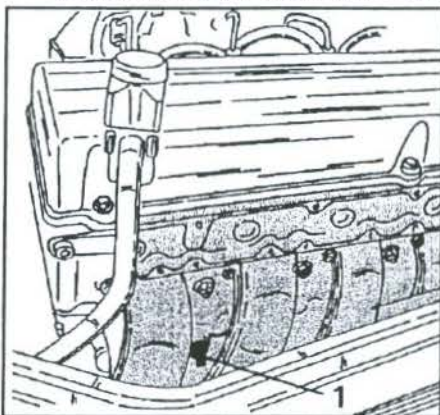

Fig. 1.83 - The coolant drain plug (1) in the side of the cylinder block.
- Unscrew the coolant drain plugs. One is located at the bottom of the radiator. A second plug is fitted to the cylinder block, but rather hidden at the position shown in Fig. 1.83. Poke a piece of wire into the bore to dislodge sludge, if the coolant flow is restricted. To ensure that the cooling system is filled without air lock, proceed as follows when filling in the coolant. Refer to Section 1.8.1.0 for the correct anti-freeze amount to be added. Anti-freeze marketed by Mercedes-Benz